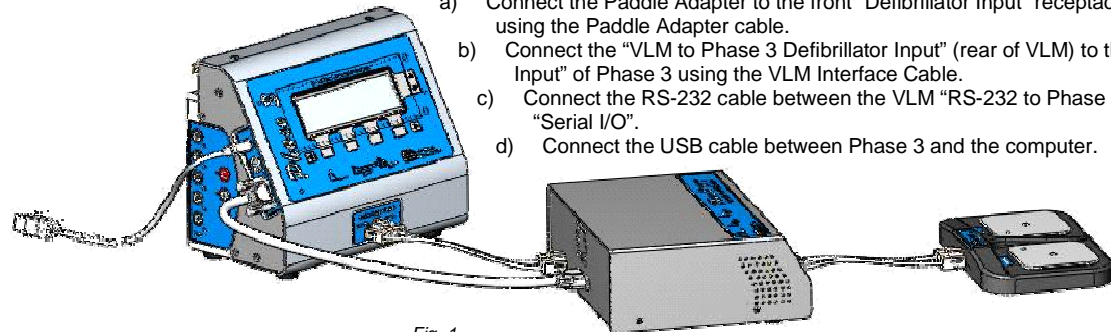

Fig. 1
- 4) A window (Fig. 1) will appear which describes how to connect the required devices.